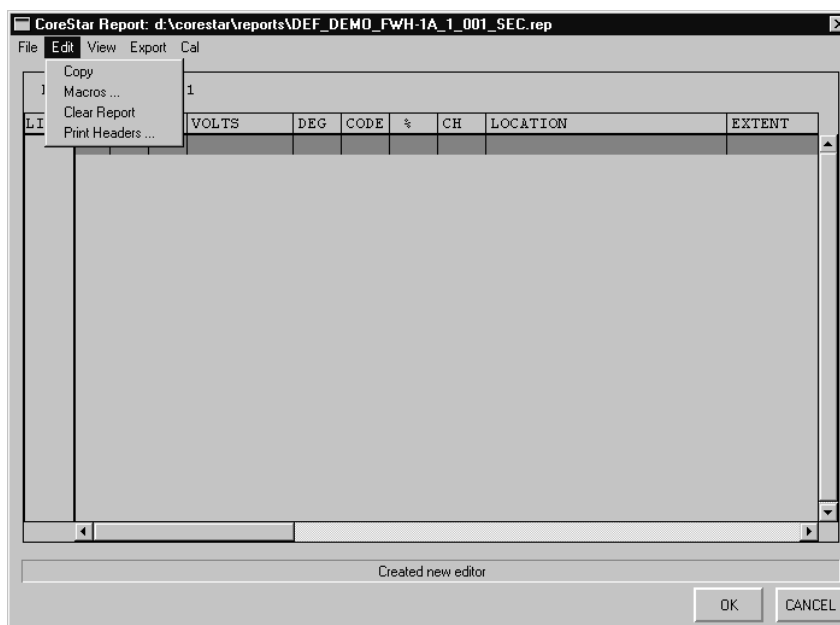
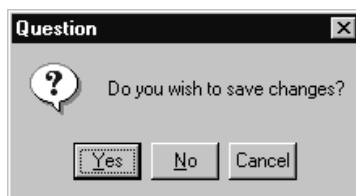
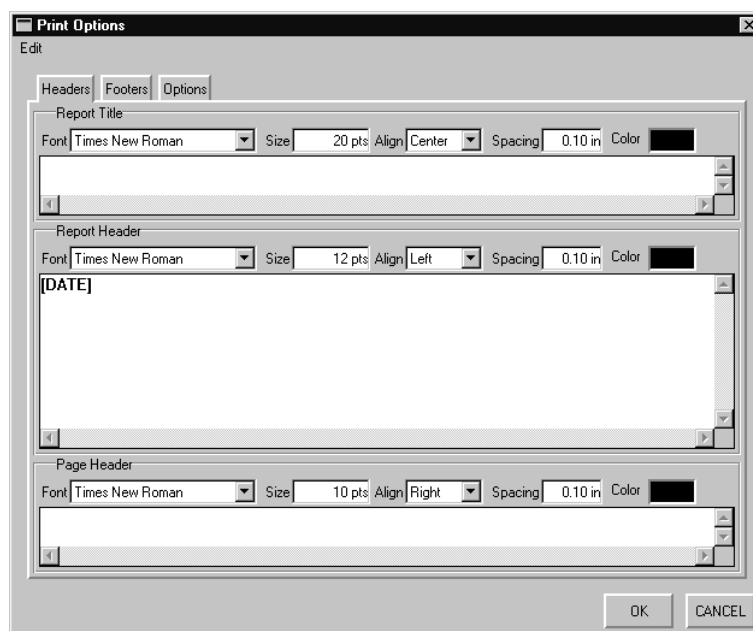
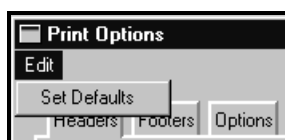

Figure 3-57. Edit Menu on Report Editor Dialog
Figure 3-65. Message Box After Clicking CANCEL on the **Report Editor** Dialog
Figure 3-66. Print Options Dialog - Headers Tab
Figure 3-69. Print Options Dialog - Edit Menu
Figure 3-57 shows the contents of the **REPORT > Edit** menu. Each selection on this menu is discussed below.
- ❑ **REPORT > Edit > Clear Report:** Selecting **Clear Report** from the **Edit** menu shown in Figure 3-57 deletes or *clears* the present eddy current report in its entirety from the **Report Editor** dialog. If an existing report is inadvertently cleared using this function, click the **CANCEL** button. This causes the message box shown in Figure 3-65 to appear. Click **No** to *cancel* the changes. Click the **Report** button, and the **Report Editor** dialog appears with the original unedited report intact.
- ❑ **REPORT > Edit > Print Headers ...:** Selecting **Print Headers ...** from the **Edit** menu shown in Figure 3-57 displays the **Print Options** dialog shown in Figure 3-66. The **Headers** tab provides an area for the **Report Title**, **Report Header**, and **Page Header** to be entered and formatted as desired. The various text controls, i.e., font, size, alignment, etc., are self-explanatory. Experiment with this dialog until you get the results desired.
The **Edit** menu on the **Print Options Dialog** shown in Figure 3-69 contains only one (1) selection named **Set Defaults**. Selecting **Set Defaults** resets all the values in the **Print Options Dialog**, including all three (3) tabbed dialogs, to the default values shown in Figures 66 through 68. Note that some of the values are enclosed in square brackets ([]). This indicates an automated *macro* function. For example, the *macro* **[DATE]** shown in Figure 3-66 automatically inserts the current date when the report is printed. Other common system macros include: **[DATETIME]**, **[NUM_PAGE]**, **[CUR_PAGE]**, **[MONTH]**, and **[YEAR]**.